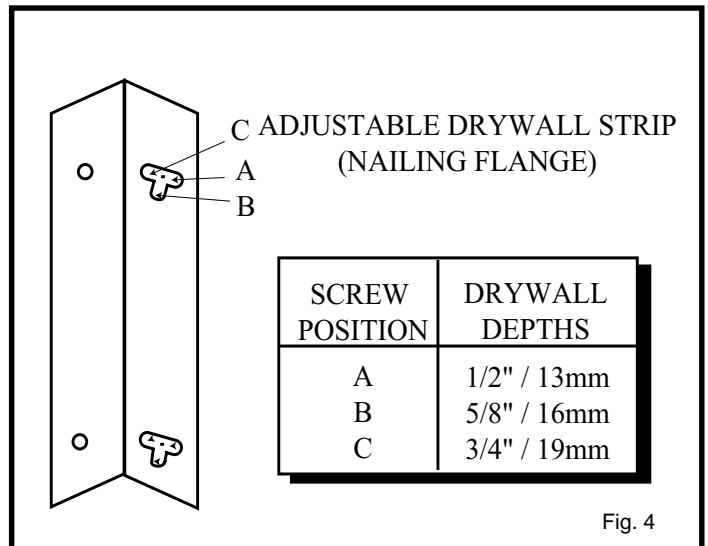

Fig. 4
4. Attach fireplace to frame using adjustable frame drywall strips (located behind access door for shipping). Preset depth to suit facing material (adjustable to 1/2" , 5/8" or 3/4" depths). Fig. 4.